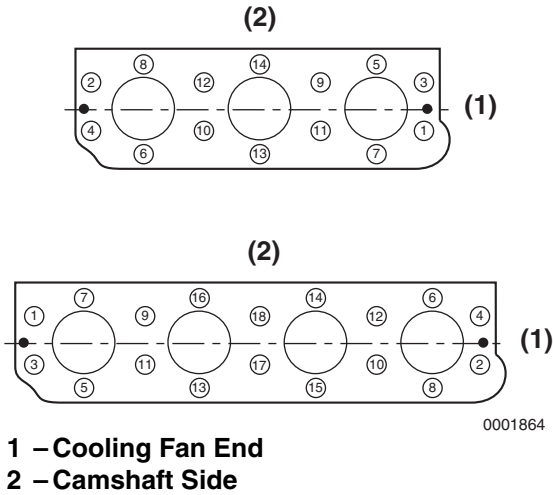

Figure 6-43
1. Loosen the cylinder head bolts following the sequence shown in **(Figure 6-43)**.